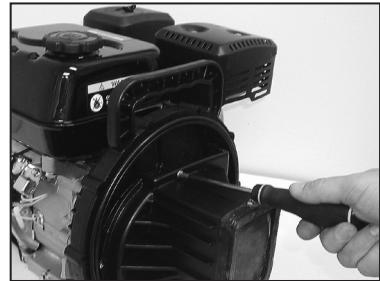

Fig. 2
2. Remove diffuser by removing the three screws with a Phillips screwdriver. Inspect parts for wear. (See Figure 2.)